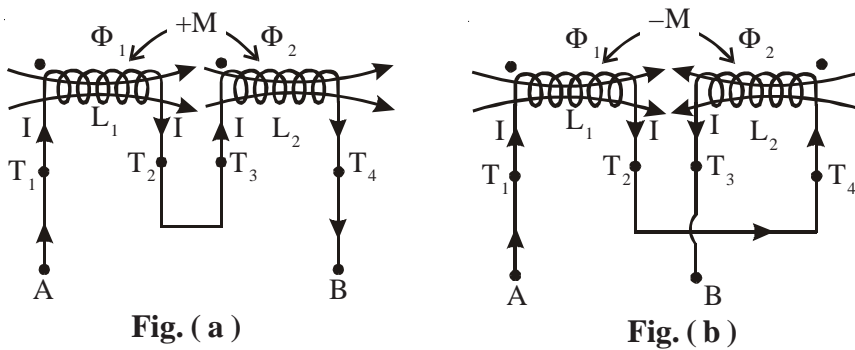

Fig. 1.37 Mutual Inductance in Series
Consider Fig. 1.37, two coils magnetically coupled having self-inductance of L₁ and L₂ respectively and a Mutual Inductance of M Henry.
- (i) As in Fig. 1.37 (a), when their fields (or M.M.F.s) are **additive** i.e., their fluxes are setup in the same direction as shown in Fig. 1.37 (a). In this case, the inductance of each coil is **increased** by M₁ i.e.,
- (ii) As in Fig. 1.37 (b), when their fields (or M.M.F.s) are **subtractive** i.e., their fluxes are setup in the opposite direction as shown in Fig. 1.32. In this case, the inductance of each coil is decreased by M , i.e.,